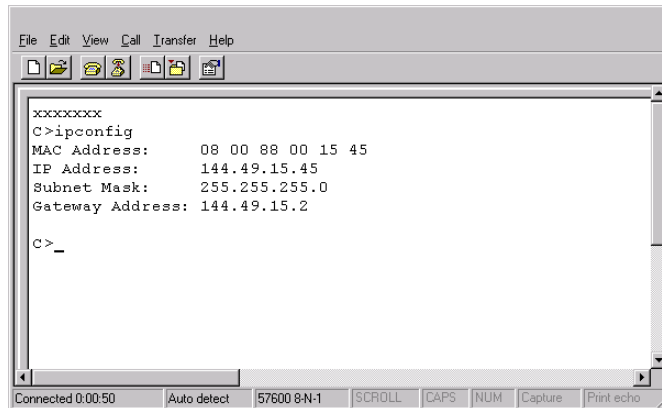

Figure 35: HyperTerminal window
10. At the C> prompt, enter `ipconfig` and press **Enter**. The HyperTerminal window displays, as shown in Figure 35.